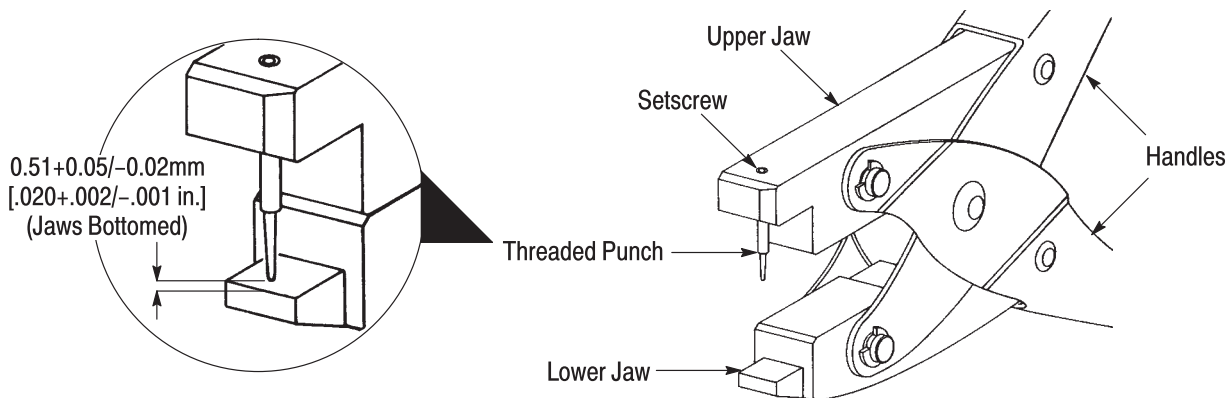

Figure 1
2. DESCRIPTION (Figure 1)
Close the tool handles and measure the distance between the punch tip and lower jaw. If necessary, adjust the threaded punch and setscrew to obtain the clearance shown in Figure 1. To adjust the punch, loosen the setscrew, adjust threaded punch up or down as required, and tighten setscrew.